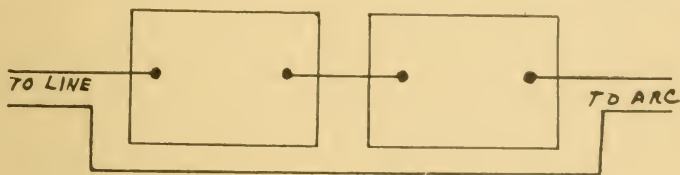

FIGURE 6
dry cell (battery) such as is used to ring bells has approximately 1.5 volts pressure. It imparts that pressure to the wires attached to its terminals. (75) If a properly insulated wire is attached to each terminal of a dry battery cell, both wires will have a pressure of approximately one and one-half volts at any point of their length, excepting only the pressure used up in moving the current from its point of generation to the point where the voltage is measured. (76) If we connect the positive of one battery cell to the negative of another cell, or the positive of one dynamo to the negative of another dynamo, a series connection is formed as per Fig. 6, and a circuit connected to the other two poles of the combined cells or dynamos will have the full combined voltage charge of both cells or dynamos. If the cells each have 1.5 volt charge, the circuit will carry a 3-volt charge. If the